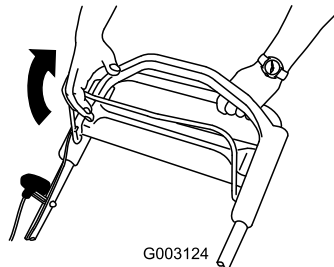

Figure 31
2. Pull the blade control bar to the handle (Figure 31).